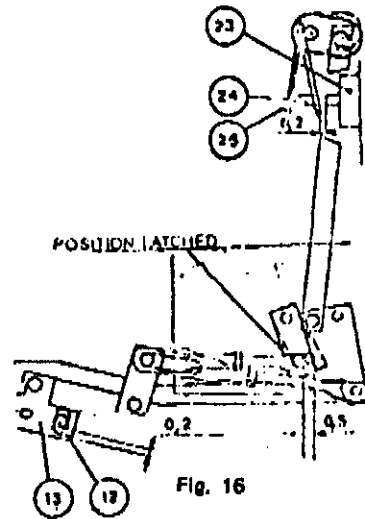

Fig. 16
- b) Inspection. With the breaker in the open position, press the trip button (23) Fig. 16 and check travel of release bar. Distance between maximum position of reset and latch should be 0.5 mm (0.020 inch). Check play between lever (24) and adjustment screw (24) for a minimum of 0.2 mm (0.008 inch). Press the pushbutton fully to check for a minimum clearance of 0.2 mm (0.008 inch) between lug (12) of the latch (13) and the bottom of the slot.